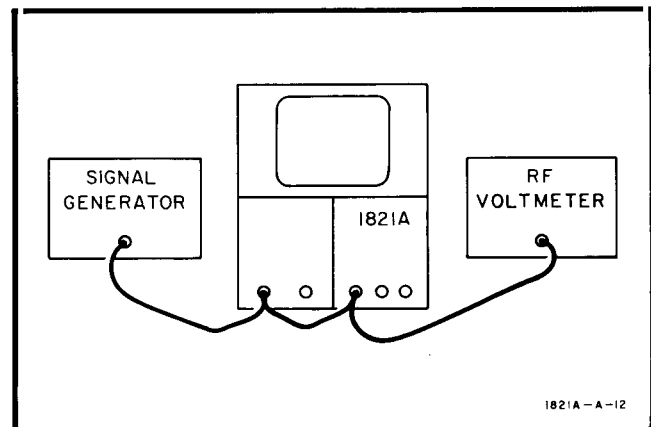

Figure 5-1. Main Triggering Test Set-Up
a. Connect Signal Generator output and RF Voltmeter input to Channel A Input and Main EXT INPUT as shown in Figure 5-1.